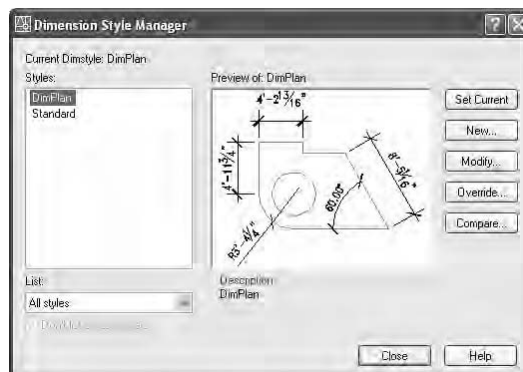

FIGURE 11.24: The Dimension Style Manager dialog box with DimPlan current
1. Click the Dimension Style button on the Dimension toolbar to open the Dimension Style Manager dialog box. It will look like Figure 11.24.